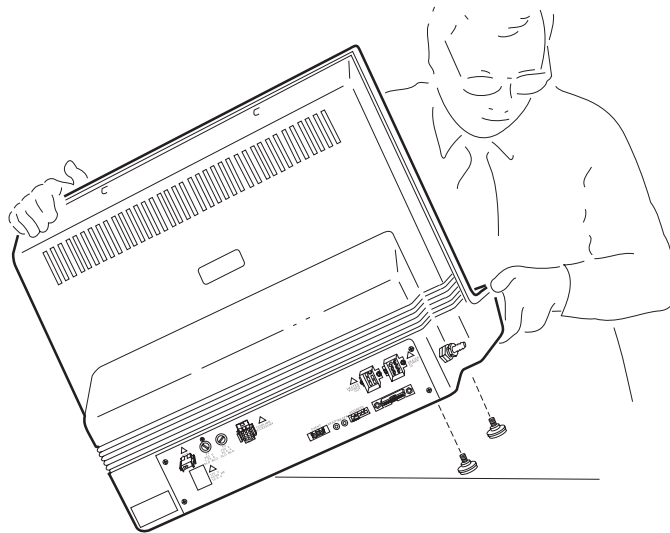

Figure 2.3 Installing the Mounting Feet
8. Have your assistant lift one side of the unit while you use a wrench to install two mounting feet (see Figure 2.3). Rotate the unit and install the two remaining mounting feet in the same manner.